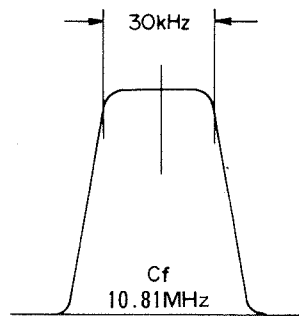

Figure 1
- Adjust the cores of T_{1005} , T_{1006} and T_{1015} until the scope pattern illustrated in Figure 1 is obtained.